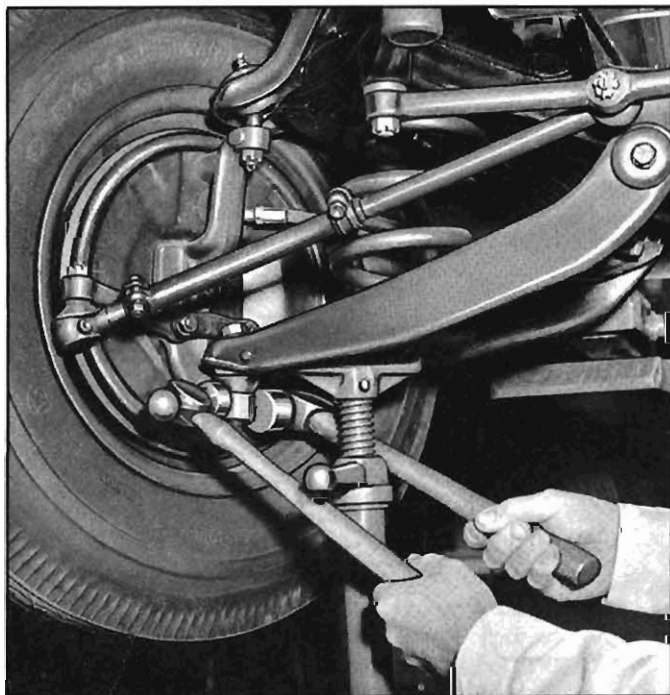

Fig. 3-8—Loosening Lower Ball Stud
2. Remove lower ball stud cotter pin and nut. Strike steering knuckle boss backing up with another hammer (fig. 3-8).